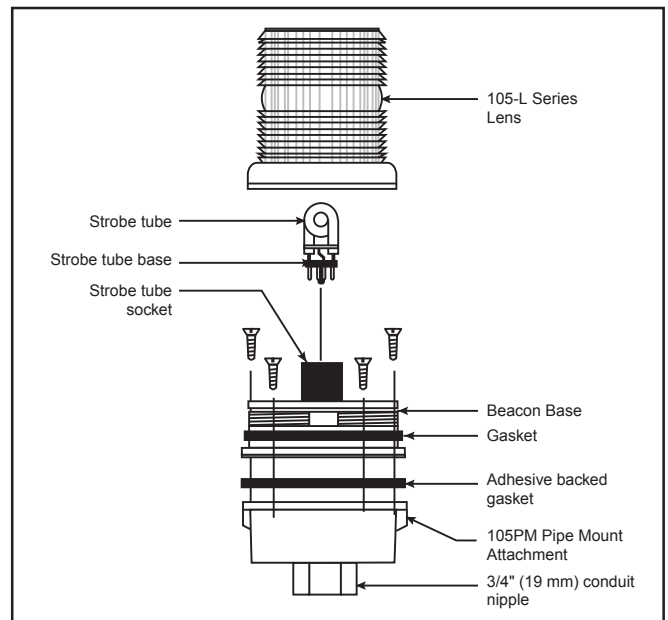

Figure 2. Securing the Beacon to the Mounting Attachment (Pipe Mount Attachment shown)
4. Mount 105SLED, 105FLED, 105SINH, 105FINH, and 105ST Series as follows. Unscrew the gasketed base from the lens assembly as shown in Figure 2 and remove the clear gasket from around the base.
- a. Grasp the strobe tube by its base and pull straight up out of the strobe tube socket (Figure 2).